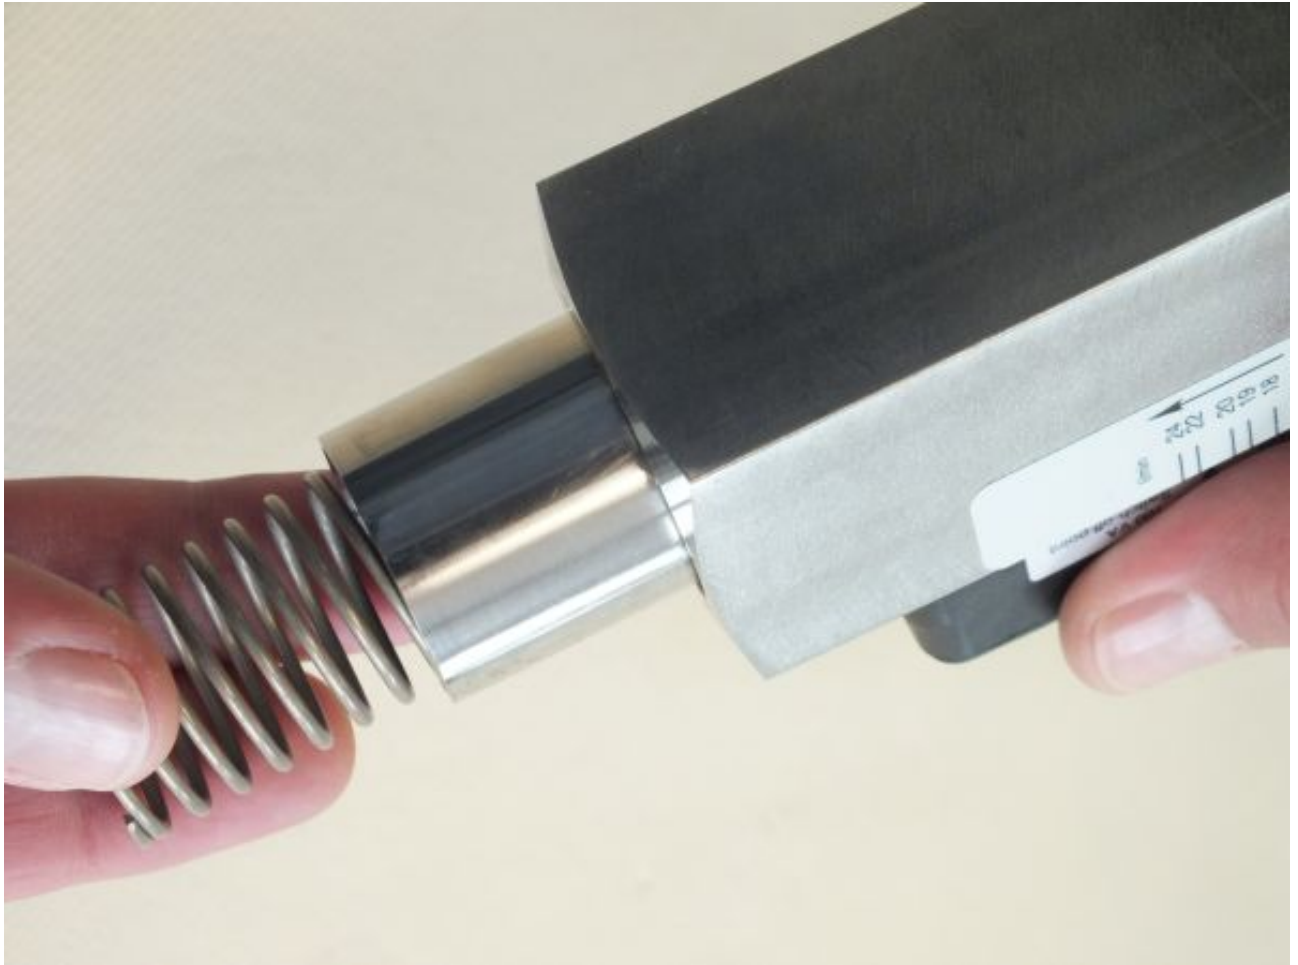

Fig. 53: Remove inner parts
11. ➤ Carefully turn the device body 180° and remove the inner parts (float, magnets and spring) (*Fig. 53*)